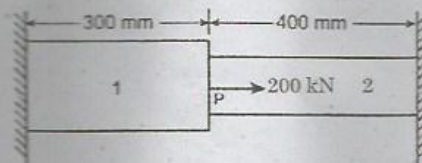

Fig.12(a)
12. (a) Consider a bar as shown in Fig 12(a). An axial load of 200 kN is applied at point p. Take $A_1 = 2400 \text{ mm}^2$, $E_1 = 70 \times 10^9 \text{ N/mm}^2$, $A_2 = 600 \text{ mm}^2$, $E_2 = 200 \times 10^9 \text{ N/mm}^2$. Calculate the following, (i) The nodal displacement at point p, (ii) Stress in each element (iii) Reaction force. (16)